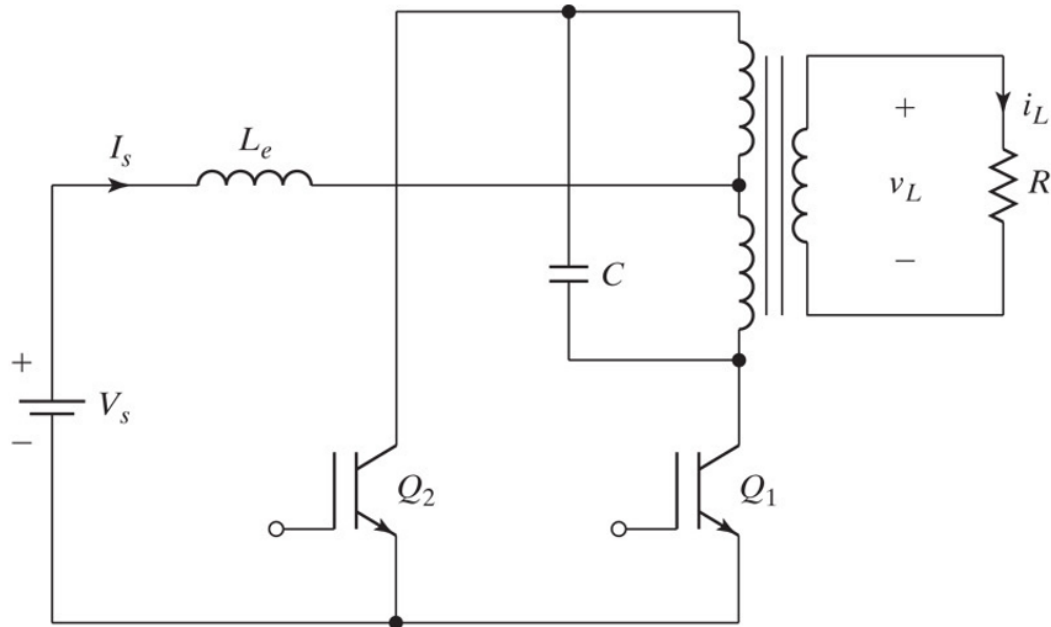

Figure Q5(b)
5. (b) A parallel resonant inverter as in Figure Q5(b) delivers a load power of $P_L = 3 \text{ kW}$ at a peak sinusoidal load voltage of $V_p = 220 \text{ V}$ and at resonance. The load resistance is $R = 7.5 \Omega$. The resonant frequency is $f_o = 30 \text{ kHz}$.